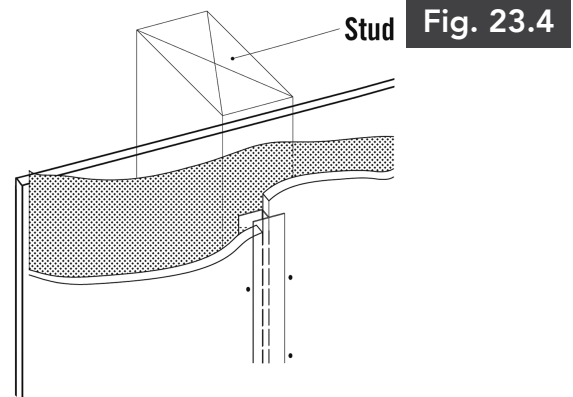

Fig. 23.4
- Use metal or PVC H-channel connector in accordance with manufacturer's instructions. (*Fig. 23.4*)